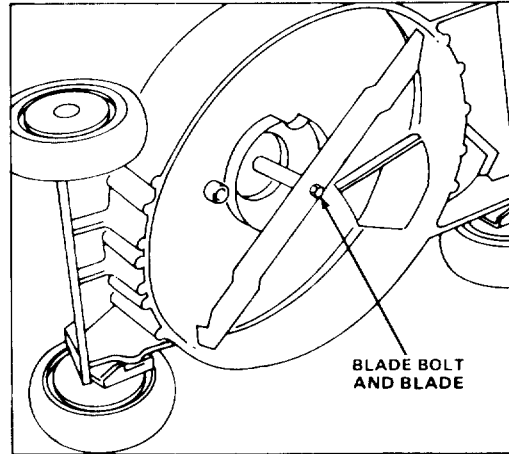

Figure 16
3. Tip mower on its right side (Fig. 16). Avoid rotating blade as starting problems may result.
**5. REMOVING BLADE**—Grasp end of blade using a rag or thickly padded glove. Remove blade bolt and blade (Fig. 16).